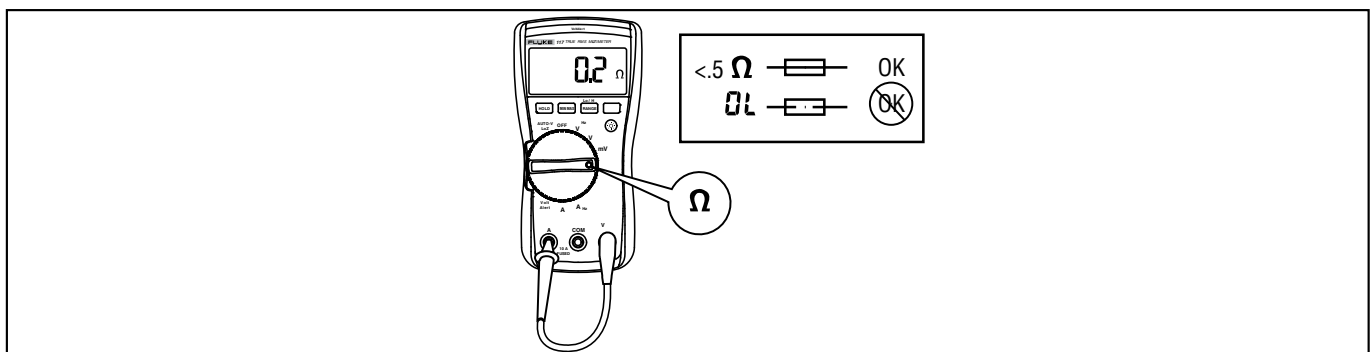

Figure 1. Fuse Testing
2. Plug a test lead into the V_{Ω} jack and touch the probe to the 10A jack, as shown in Figure 1.
If the display shows a resistance value in the range of that shown in Figure 1, the fuse is good.